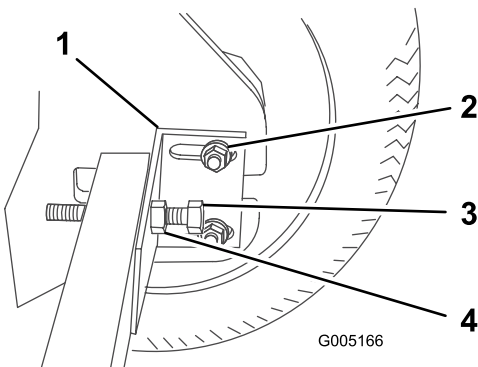

Figure 34
to secure it in place (Figure 34) and torque the nut to 30 ft-lb (40.7 N·m).
3. Loosen the nuts securing the axle retaining bracket (Figure 34).
4. Loosen the nut on the chain tensioning bolt and loosen the bolt (Figure 34).